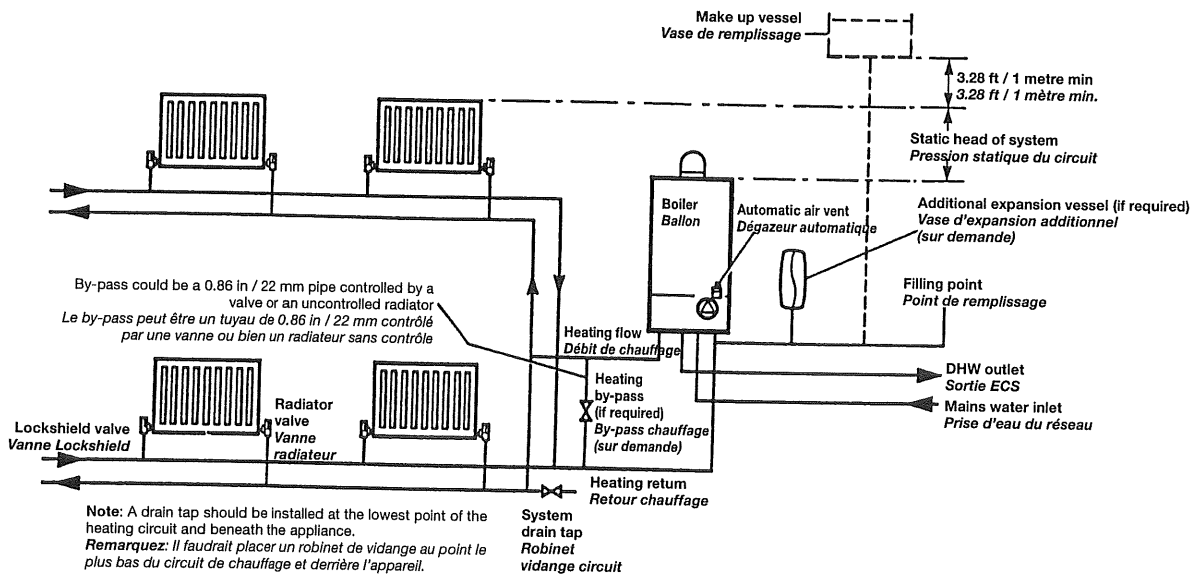

Fig. 13
3.7 CENTRAL HEATING SYSTEM - Fig. 13
3.7 LE CIRCUIT DE CHAUFFAGE CENTRAL - Fig. 13